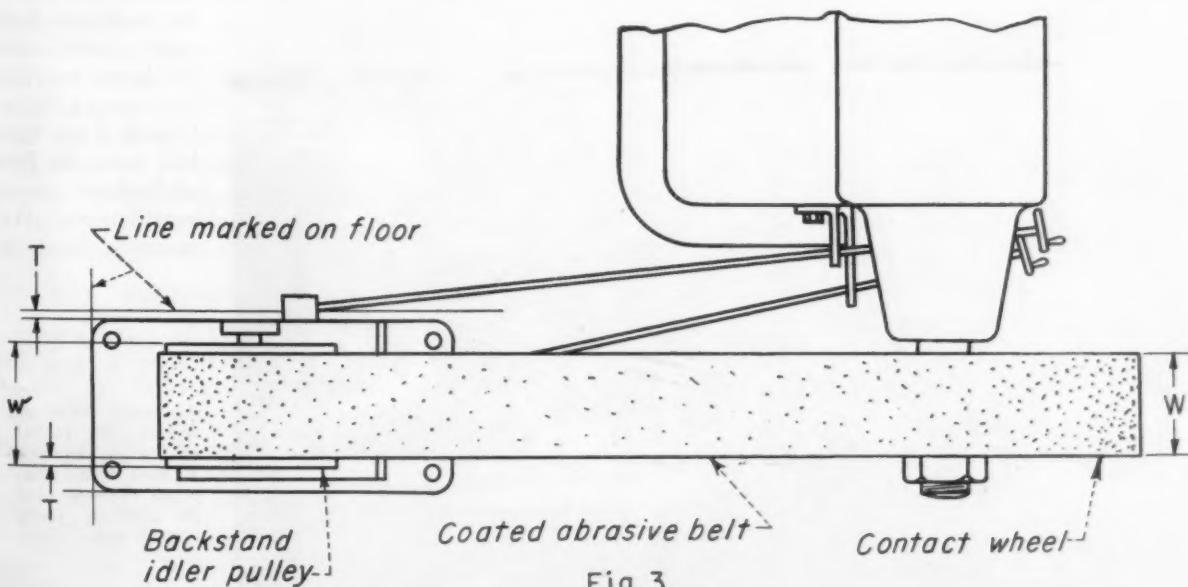

Fig. 3
If the idler pulley is wider than the contact wheel, move the idler pulley assembly as shown in Fig. 3 a distance (T) equal to one half the difference in widths